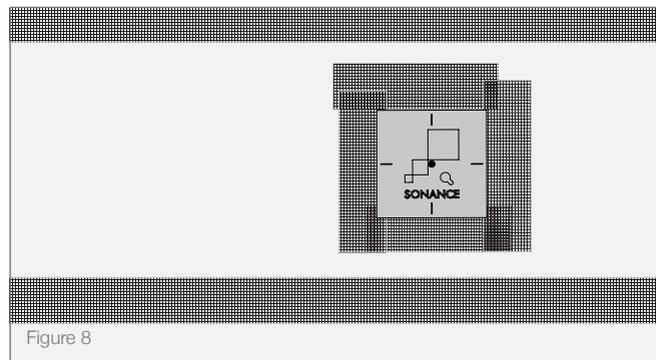

Figure 8
- Using mesh tape, apply tape around all adjoining surfaces. This includes areas around the mounting platform and around the speaker opening as shown in the photo below (see Figure 8).